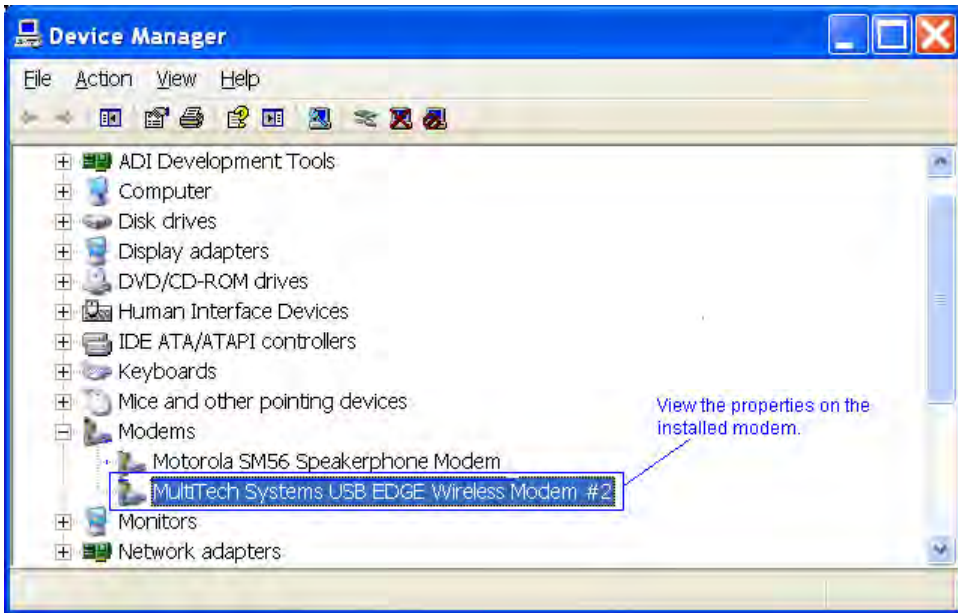

FIGURE 20-25 View Modem Properties
Step 1 After installation go to the **Control Panel > Systems > Device Manager**. Right-click the installed modem and select **Properties**, as shown in Figure 20-25.